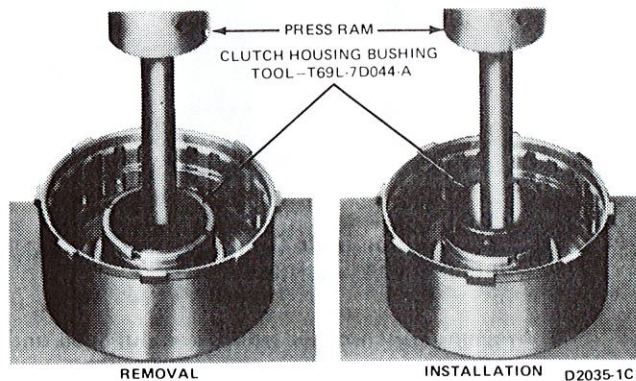

FIG. 40 Replacing Reverse-High Clutch Rear Bushing
7. Remove the front and rear bushings from the clutch drum if they are worn or damaged. To remove the front bushing, use a cape chisel and cut along the bushing seam until the chisel breaks through the bushing wall. Pry the loose ends of the bushing up with an awl and remove the bushing. To remove the rear bushing, use the tool shown in Fig. 40, and press the bushing from the drum.
1. If the clutch drum bushings were removed, position the drum in a press and press new bushings into the drum with the tools shown in Figs. 40 and 41.